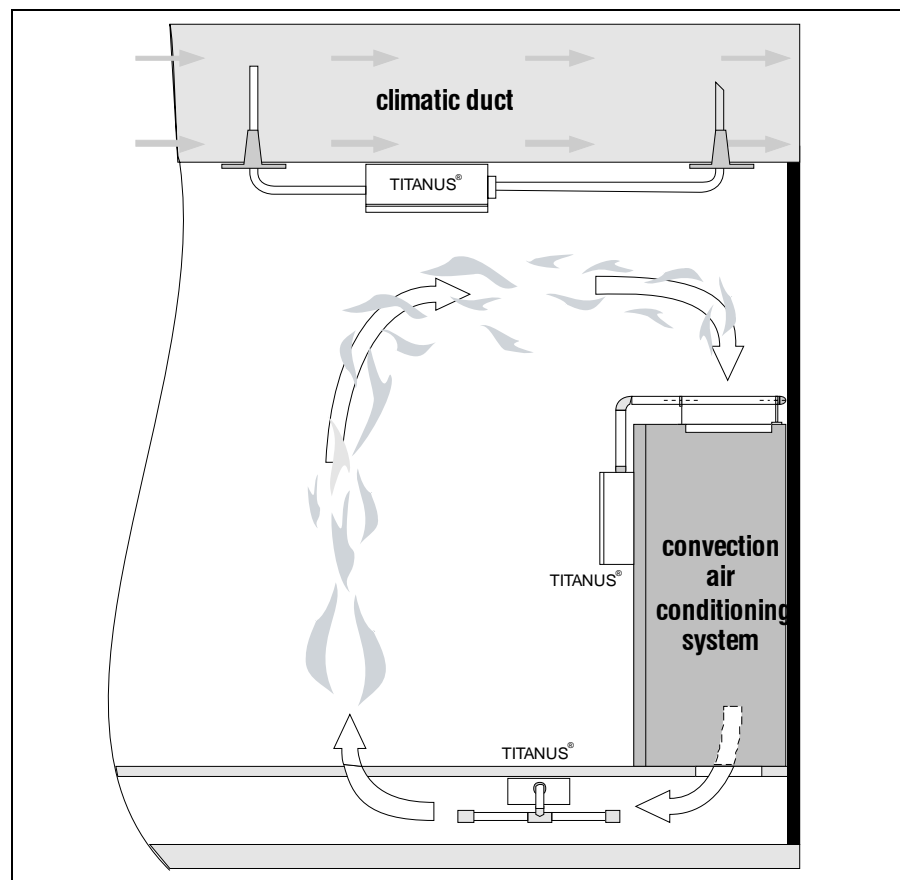

Fig. 1.2: Sketch: Monitoring possibilities of a convection air conditioning cabinet or air conditioning duct
- in climatic cabinets (see fig. 1.2) or